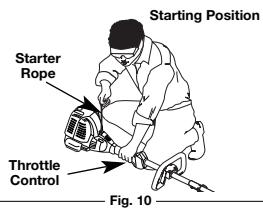

Fig. 10
5. Crouch in the starting position (Fig. 10). Squeeze the throttle control lever. Pull the starter rope 5 times.